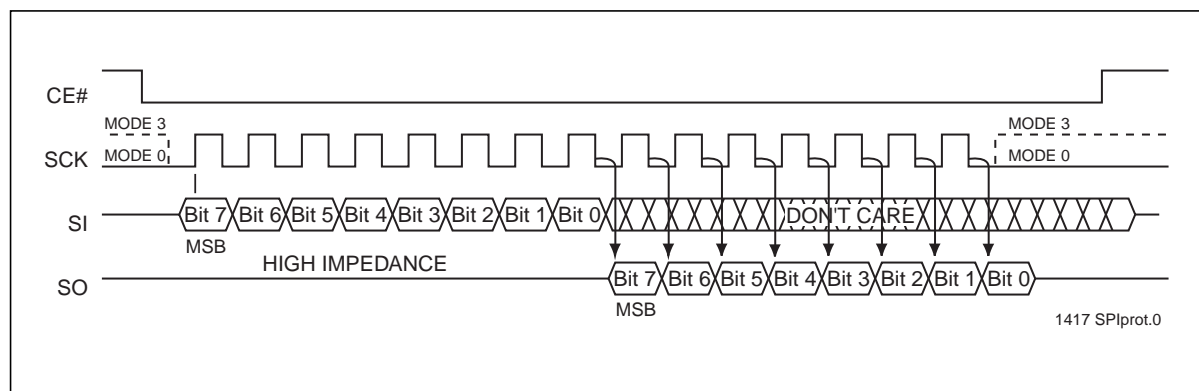

Figure 3: SPI Protocol
The SST25VF020B supports both Mode 0 (0,0) and Mode 3 (1,1) of SPI bus operations. The difference between the two modes, as shown in Figure 3, is the state of the SCK signal when the bus master is in Stand-by mode and no data is being transferred. The SCK signal is low for Mode 0 and SCK signal is high for Mode 3. For both modes, the Serial Data In (SI) is sampled at the rising edge of the SCK clock signal and the Serial Data Output (SO) is driven after the falling edge of the SCK clock signal.